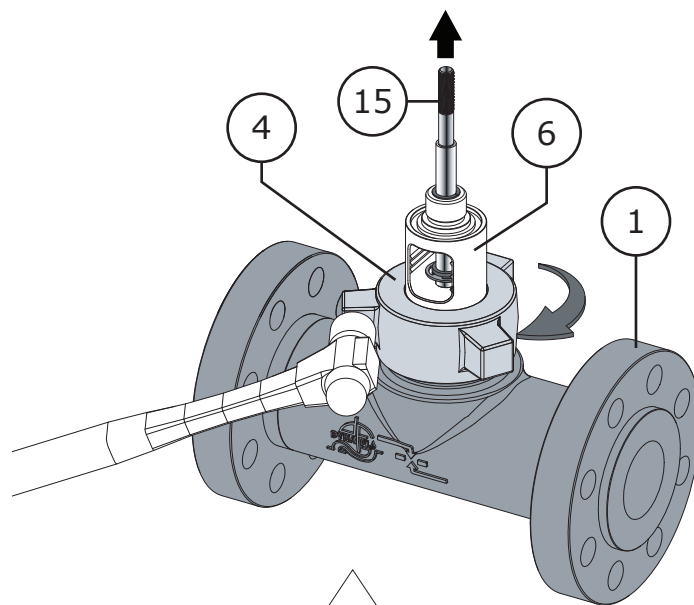

Figure 39 Hammer Nut Tightening
- 12** Hold the bonnet assembly in place during tightening so that it does not twist out of alignment. Tighten/torque the hammer nut (Key 4) to 200 lbs-ft. When the hammer nut is properly tightened the packing inside the bonnet will have reached the proper load, refer to Figure 39.